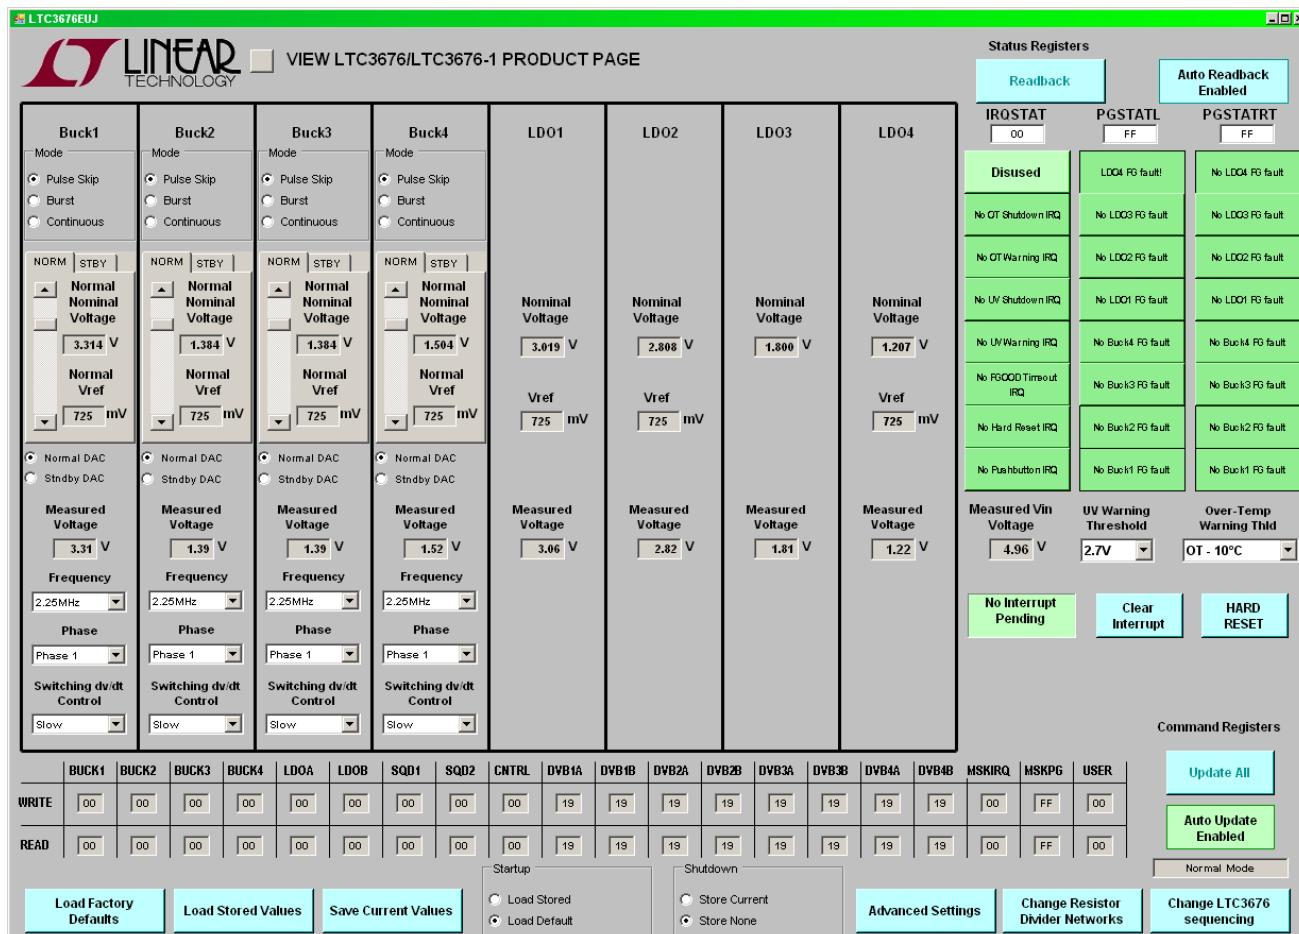

Figure 3. Main Form
2. Start the Linear Technology QuikEval™ program. This program should automatically detect the presence of the LTC3676EUJ demo board (DC1976A-A) and activate the appropriate GUI, as seen in Figure 3. The GUI reads back the current voltages of the regulators. LD01 should read 3V, and V_{IN} should read 5V; all others should be 0V.
3. Press the PB1 button on the DC1976A-A for more than 0.5s; all of the power supplies should come up and the displayed GUI page should match Figure 3.
- The LTC3676 (DC1976A-A) form (Figure 3) is brought up by the QuikEval program.